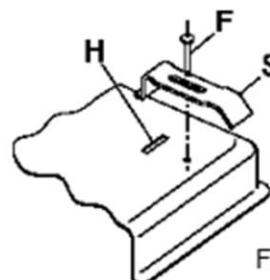

Fig. 4
5. Fix the cooktop with the proper brackets "S" and fit the prominent part into the porthole "H" on the bottom; turn the screw "F" until the bracket "S" touches the top (fig. 4). In fastening the brackets, do not use a mechanical or electric screwdriver. Instead, use a hand-operated screwdriver and exert only moderate force.